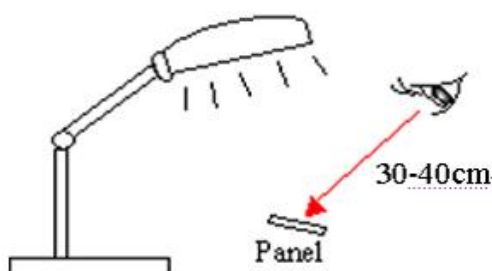

Fig. 1
(4) The viewing angle :
(5) Display panel shall be conducted at the distance 30~40cm between the LCD module and eyes of inspector (Fig. 1)